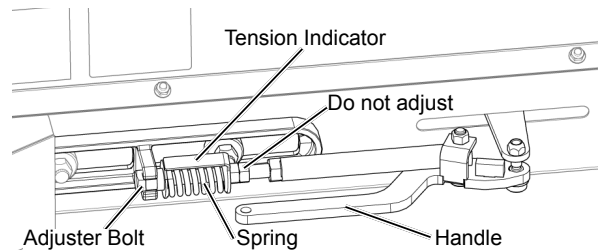

Fig. 112 - Draper Tension Adjustment
3. If adjustment is required, first release the draper belt tension handle shown in Fig. 112.
4. Loosen the lock nut and reposition the drive roller via the adjustment nut. Re-engage the draper tension handle shown in Fig. 112.